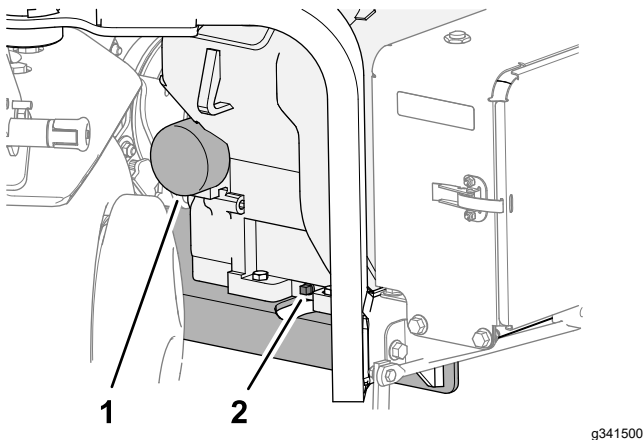

Figure 161
- Place a pan below the oil-drain plug, and remove the plug (Figure 161).
- Place a shallow pan under the oil filter, and remove the filter (Figure 161).
- Thread the oil filter onto the filter adapter until the gasket contacts the filter adapter (Figure 161), then tighten the filter an additional 1/2 turn.